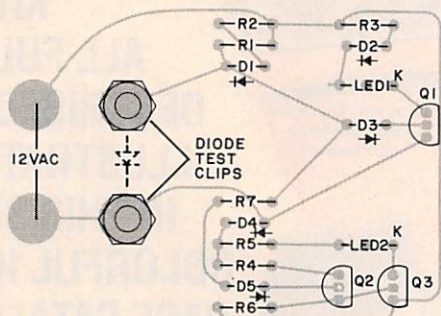

Fig. 2. Pc board can be used as case cover with component mounting as shown at left.
**Construction.** Although circuit layout is not critical and any type of construction can be used, a unique approach was used in the author's prototype as shown in the photographs. The pc board foil pattern shown in Fig. 2 can be used to make a board which has the components mounted on one side with the other side serving as the cover for the plastic case. The component holes are drilled only half-way into the board. The only holes drilled all the way through the board are those for mounting the LED's and the diode test clips. The other components are mounted by bending and cutting their leads so that they just fit on their pads. Solder must be applied quickly and properly to insure a good mechanical hold.